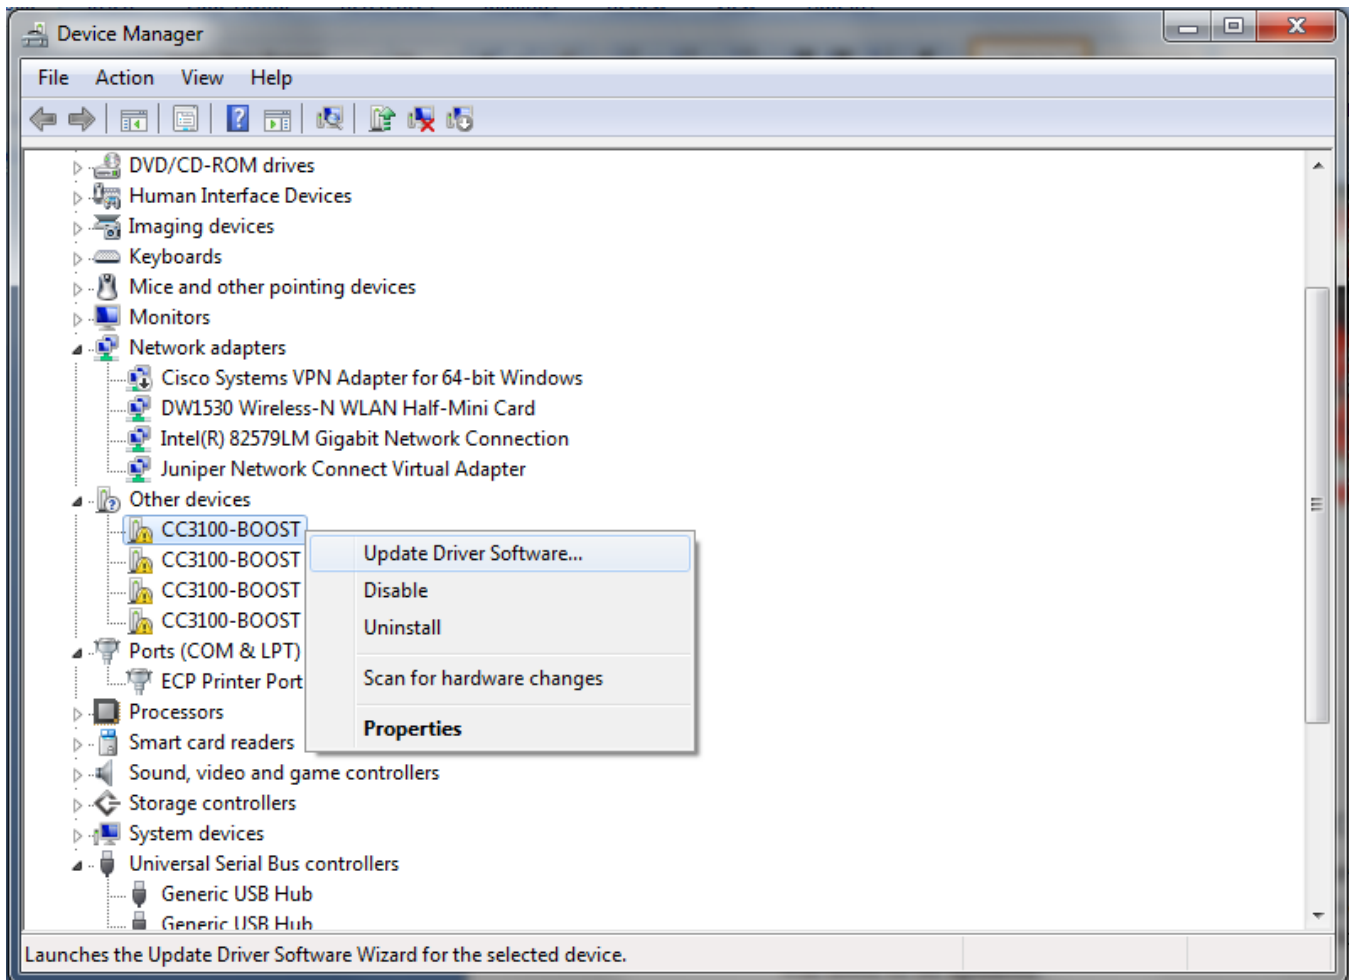

Figure 4. Device Manager
2. Open Windows Device Manager by selecting *Start Menu>Control Panel>Device Manager*. The CC3100BOOST will appear as four instances of “CC3100-BOOST” under the category *Other Devices* as shown in Figure 4. For all of these instances, the driver software will need to be updated.